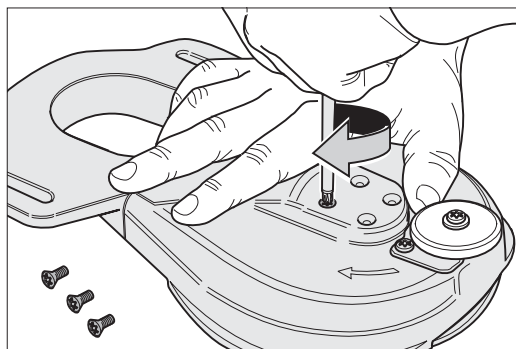

Fig. 37 Tighten the four countersunk head screws to fix the steel sanding disc.
- 15 Tighten the four countersunk head screws for fixing the steel sanding disc using the universal spanner (Fig. 37).